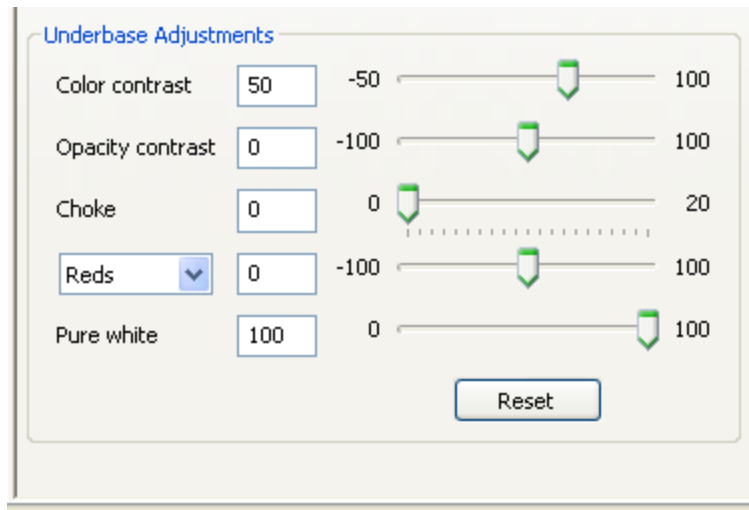

Figure 6.5n: Pure White Adjustment
- **Pure White** is set at 100 by default to print the most white ink in the pure white areas of your image. If desired this can be lowered here. (Figure 6.5n)